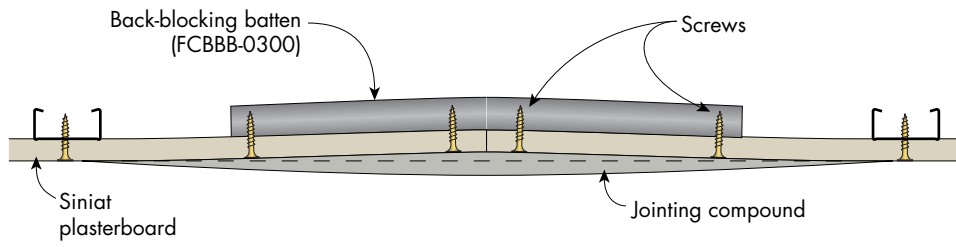
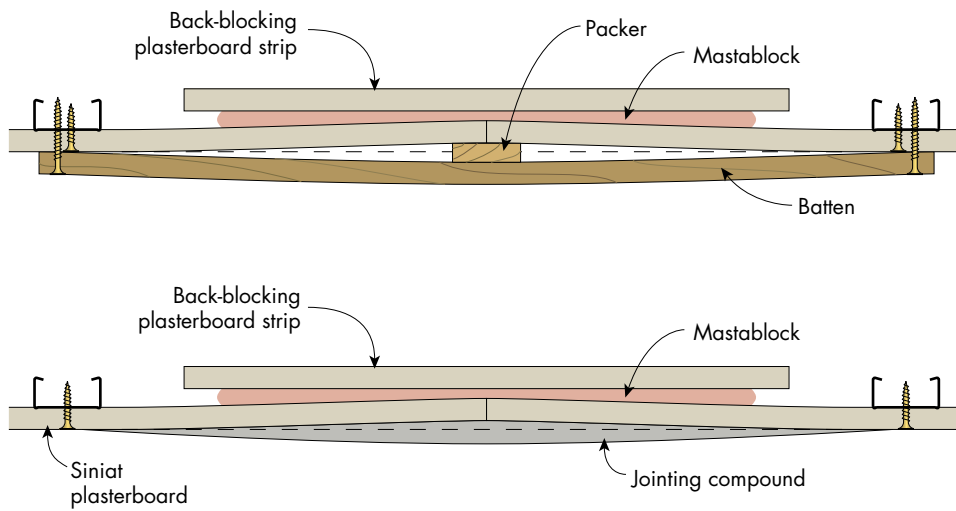

FIGURE 52 Creating a Recess on a Ceiling Butt Joint using Back-Blocking Battens
FIGURE 53 Creating a Recess on a Ceiling Butt Joint using a Temporary Packer
- Create a recess by using either back-blocking battens as shown in Figure 52 or packers as shown in Figure 53 and 54.